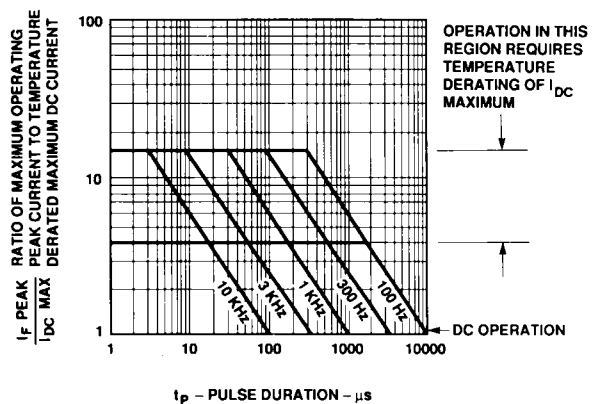

Figure 2. Maximum Tolerable Peak Current vs. Pulse Duration – AlGaAs Red.
- See Figure 2 to establish pulsed conditions.